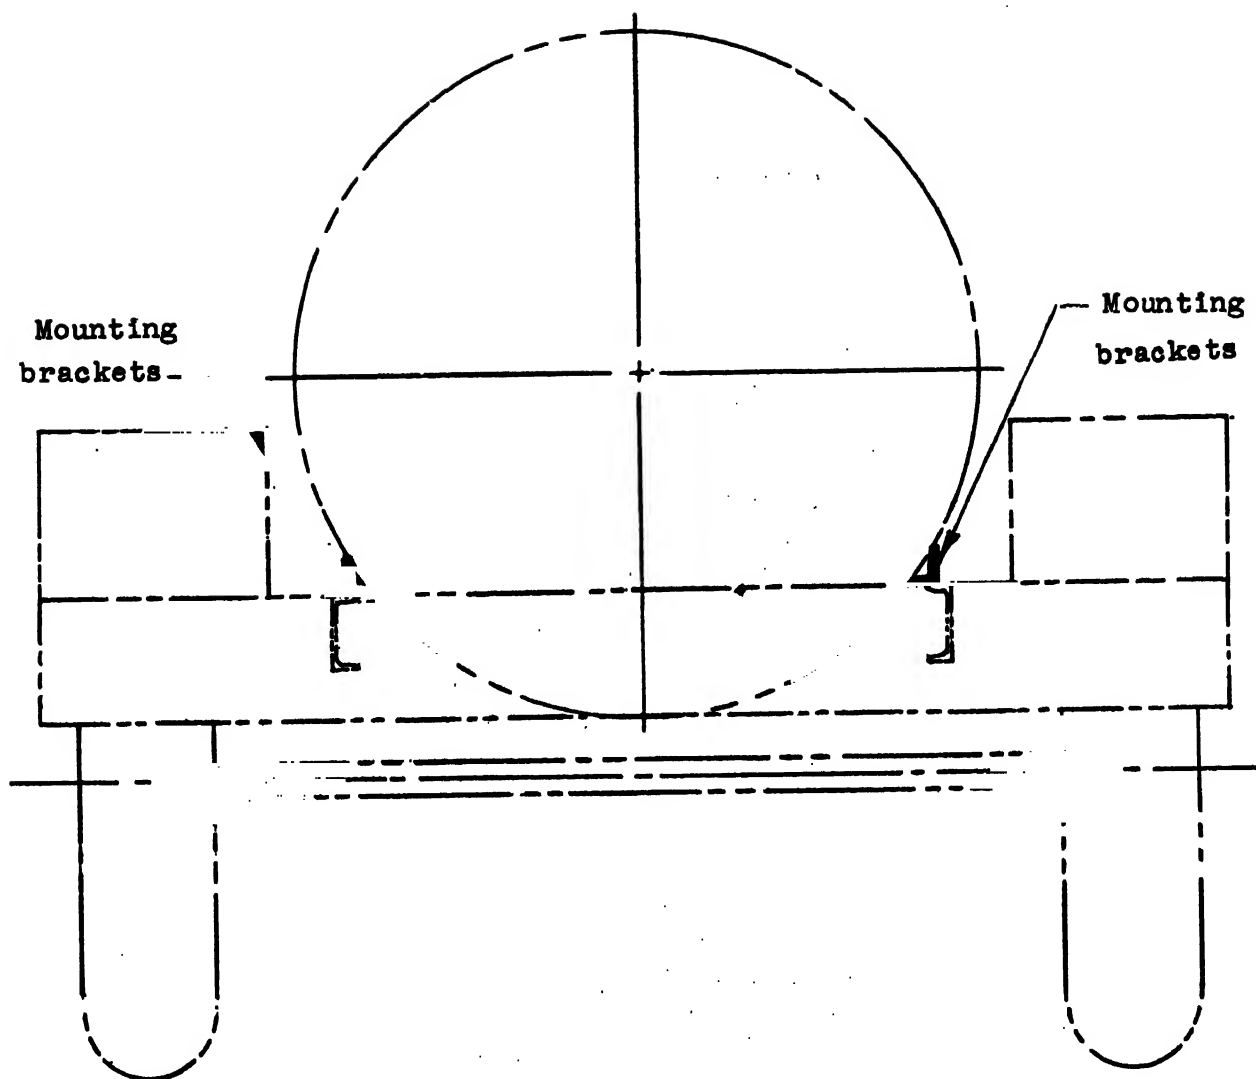

FIGURE 49. HEATER MOUNTING BRACKETS
17. Refer to Fig. 49 and remove the heater hull.
1. Refer to Fig. 49 and install the heater hull.